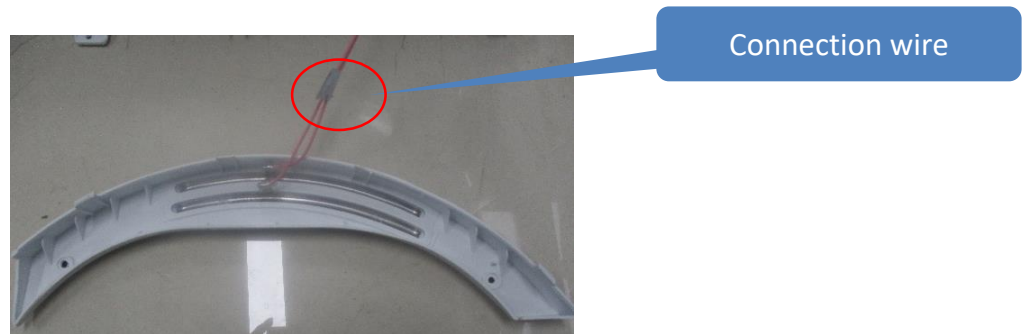

Fig.2
- ① If the connection wire of humidity sensor is broken, the E32 warning will occur on the power. It' s recommended that user need to repair or change the NTC. (Fig.2)